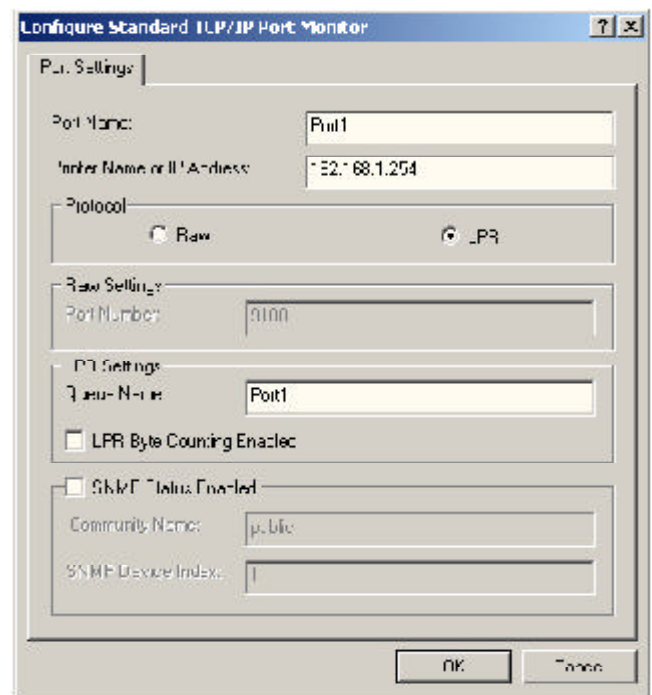

Fig. 4.5
Step 8 Select **LPR** for the **Protocol**, enter the **Port Name** in the **Queue Name** field, and click **OK**. See *Fig. 4.5*